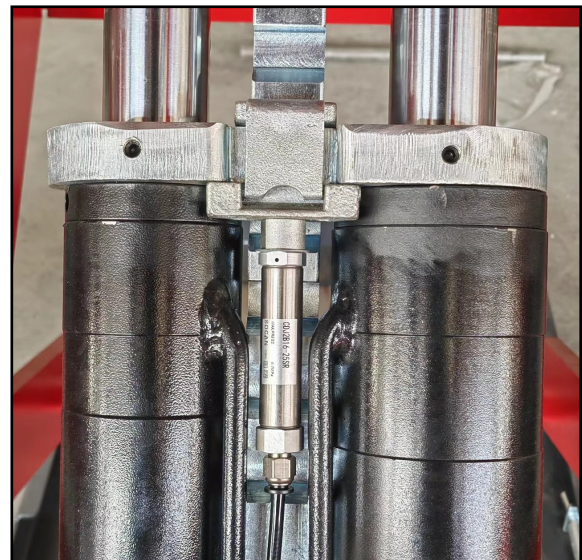

Fig. 11
- Safety tooth and gear module are parts which guarantee the safety of personnel beneath the machine in failure condition of other protections. So make sure the integrity of gear module and that the safety tooth has occluded completely. (Fig. 11)